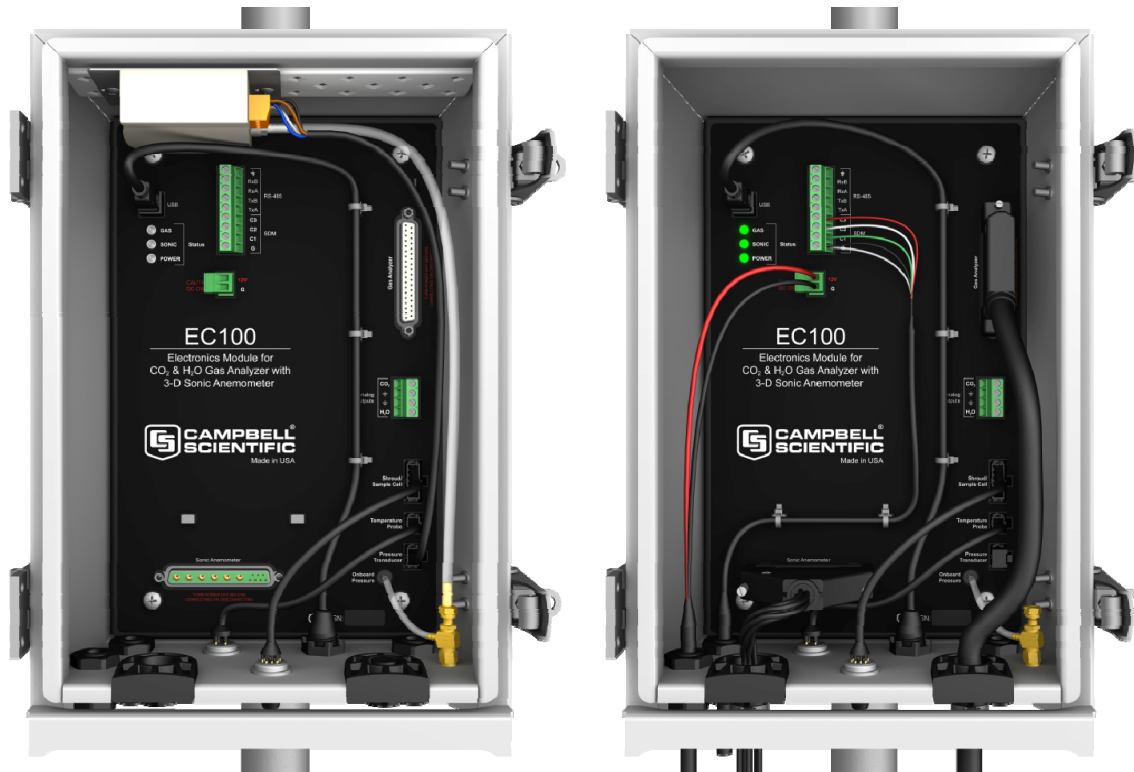
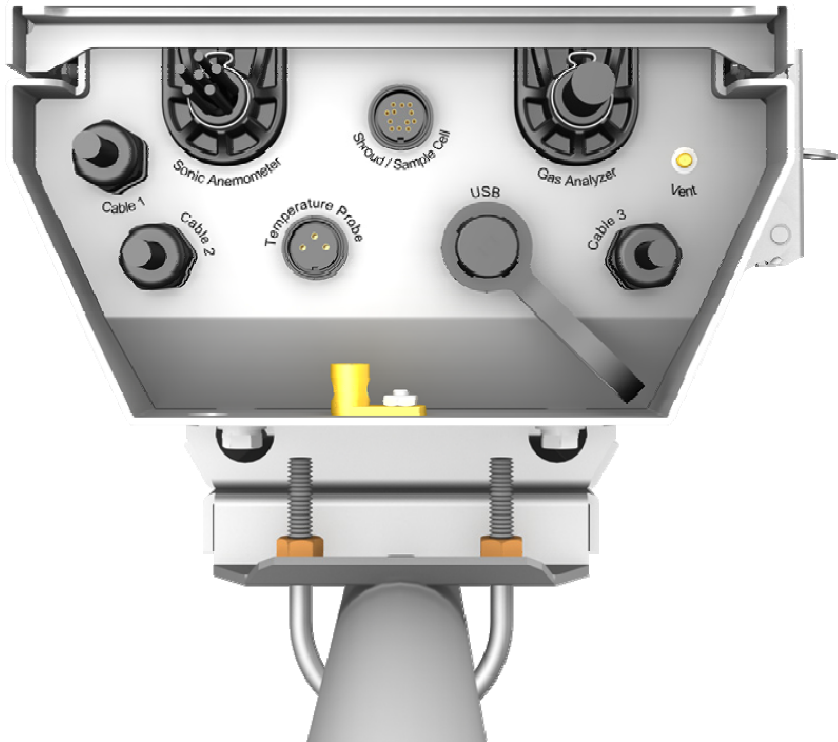

FIGURE 6-5. EC100 electronics front panel with enhanced barometer. At left, as received from Campbell Scientific. At right, all wiring and connections complete.
FIGURE 6-6. Base of EC100 enclosure
FIGURE 6-5, FIGURE 6-6, and FIGURE 6-7 show the EC100 electronics panel, the bottom of the EC100 enclosure, and sensor connections to the EC100, respectively. Refer to these figures during wiring and connecting.
tighten the thumbscrews (see FIGURE 6-5). The gas analyzer cable is approximately 3 meters in length.
2. Connect the IRGASON sonic cable. Similar to (a), begin by removing the black- rubber cable-entry plug found on the bottom left of the EC100 enclosure. Insert the cable entry plug on the cable into the slot and connect the male end to the female connector labeled *Sonic Anemometer* on the EC100 electronics (see FIGURE 6-5). The sonic cable is approximately 3 meters in length.
3. Connect the IRGASON temperature probe. Unscrew the temperature connector cover, which is found on the base of the EC100 enclosure (see FIGURE 6-6). Insert the 3-prong probe connector into the female connector on the enclosure and screw it firmly in place. The IRGASON temperature probe cable is approximately 3 meters in length.